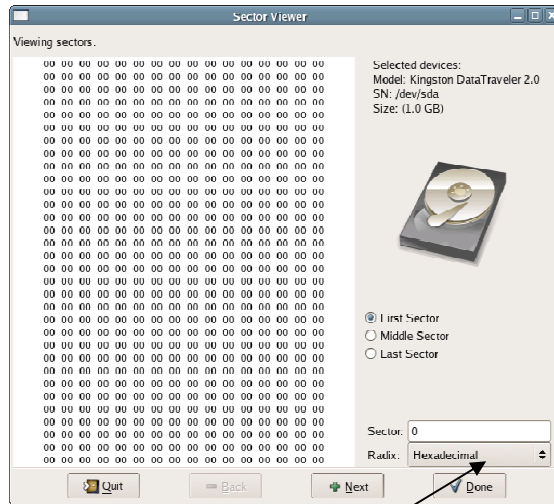

Figure 7: Hexadecimal and ASCII switch
5.4 To change the output display from Hexadecimal to ASCII click on the “Radix” pull down menu. Figure 7 shows the location of this pull down menu.